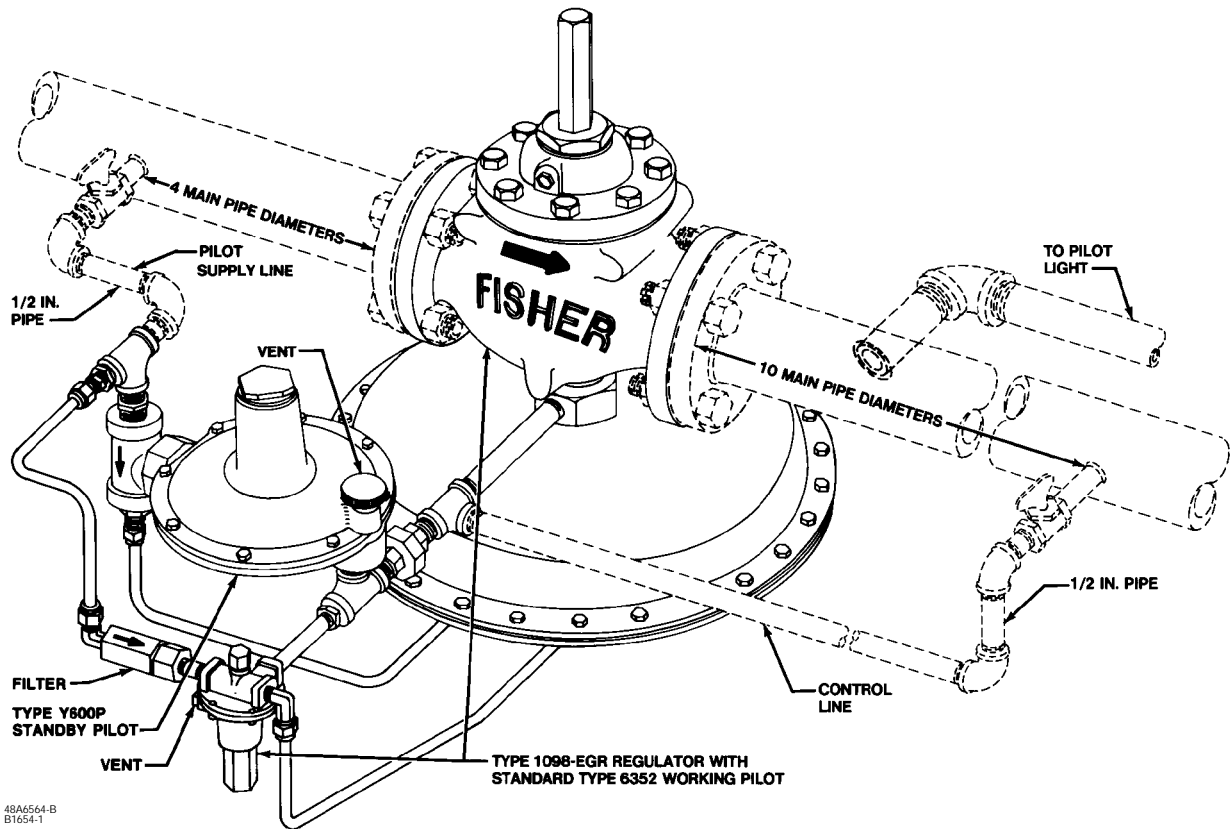

Figure 4. Typical Dual-Pilot Boiler Fuel Installation
1. Perform the Standard Single-Pilot Regulator Installation section through step 3, making sure that the regulator is installed in a horizontal pipeline with the actuator below the main valve as shown in figure 4.
2. Run a 1/2-inch outer diameter or larger pilot supply line from the upstream pipeline to the 1/2-inch NPT supply connection in the pipe tee as shown in figure 4. Do not make the connection in a turbulent area, such as near a nipple, swage, or elbow. If the maximum pilot inlet pressure could exceed the pilot rating, install a separate reducing regulator in the pilot line. Install a hand valve in the pilot supply line, and provide vent valves so that pressure can be properly isolated and relieved from the regulator.
3. Attach a 1/2-inch NPT downstream pressure control line ten pipe diameters downstream of the regulator in a straight run of pipe. Connect the other end of the control line to the 1/4-inch NPT connection in the control line pipe tee as shown in figure 4. Do not make the tap near any elbow, swage, or nipple which might cause turbulence. Install a hand valve in the control line to shut off the control pressure when the bypass is in use. Also use the hand valve to dampen out pulsations which may cause instability or cycling of the regulator.